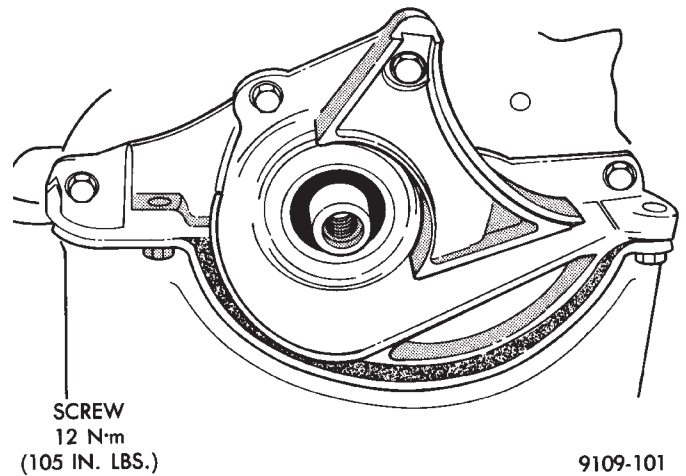

Fig. 5 Front Crankshaft Oil Seal Retainer
- (1) Remove retainer screws (Fig. 5).